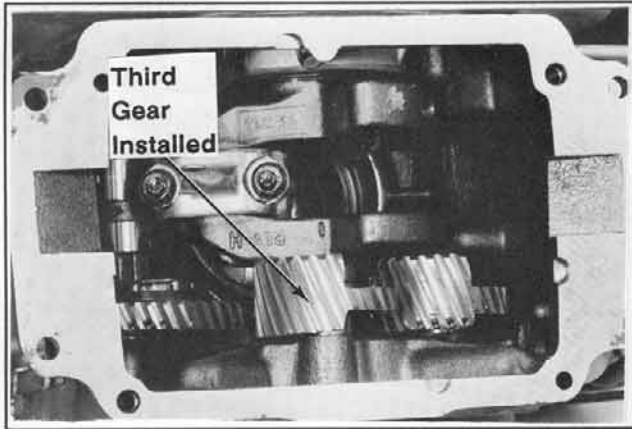

Figure 9. Aligning third gear.
8. Hold third balance gear above stub shaft so flat surface is parallel to the flat surface of the other balance gears. Turn it slightly clockwise and lower it into position on stub shaft. When completely seated in position, the flat surface should again be parallel with the flat surface of the other balance gears. Refer Figure 9.